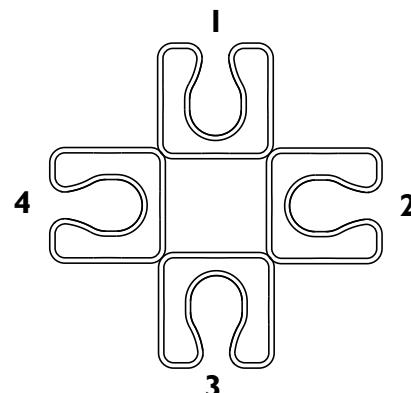

FIGURE 2 - REMOVING/INSTALLING PADDED SEAT
REMOVING/INSTALLING PADDED SEAT**REMOVING (FIGURE 2)**
The padded seat may be positioned in one (1) of four (4) directions (DETAIL "A" of FIGURE 2).
INSTALLING (FIGURE 2)
2. Place seat in desired direction (DETAIL "A" of FIGURE 2).